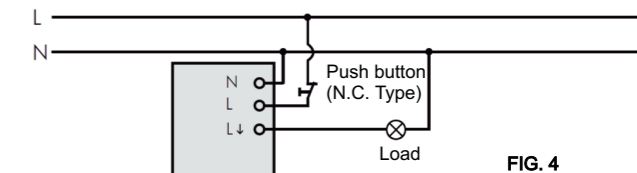
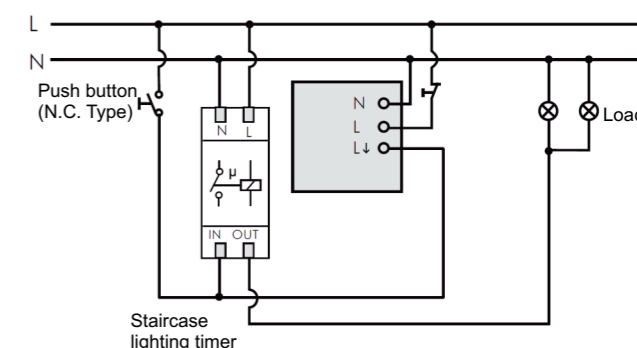
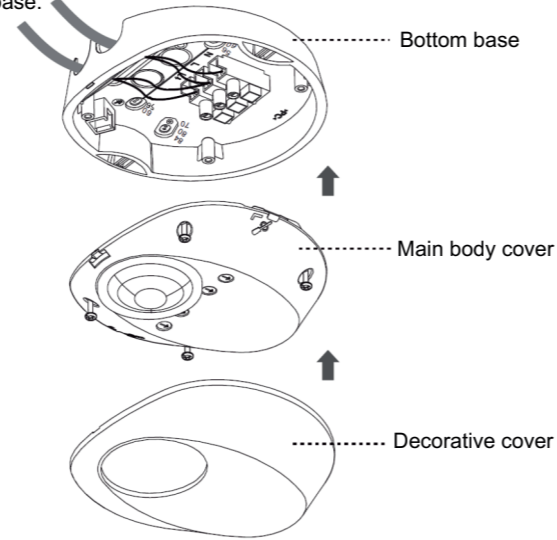

FIG. 4
FIG. 6
FIG. 12
The load can be manually switched on by using an external push button switch (N.C. 10A type), See FIG.4 - FIG.6. When the load is off, it can be switched on by a short press (1sec) on push button switch and Lux is disabled. After the load is switched on manually, the load can be automatically switched off if no movement is detected and the delay time has expired.
3.3.1 One load is controlled by one detector (See FIG.4).
3.3.2 One detector controls staircase time switch (Time is set to **1s**). See FIG. 6).
3.4.1.6 Refer to the wiring diagrams (See FIG.4 - FIG.6) for correct cable connections and refer the FIG.12 to assemble detector with the bottom base.
3.4.2.4. Refer to the wiring diagrams (See FIG.4 - FIG.6) for correct cable connections and refer the FIG.12 to assemble detector with the bottom base.